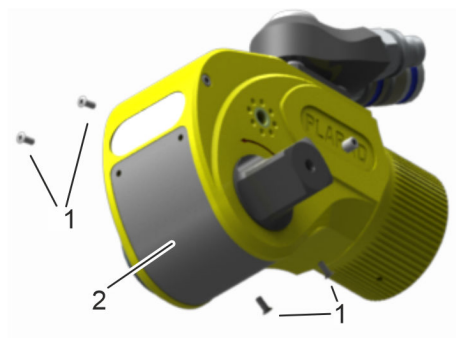

Fig. 31: Cover panel
2. ➔ Undo the bolts (Fig. 31/1) in the cover panel (Fig. 31/2) and take off the cover panel.
- 15.** ➤ Fasten the cover panel (Fig. 31).